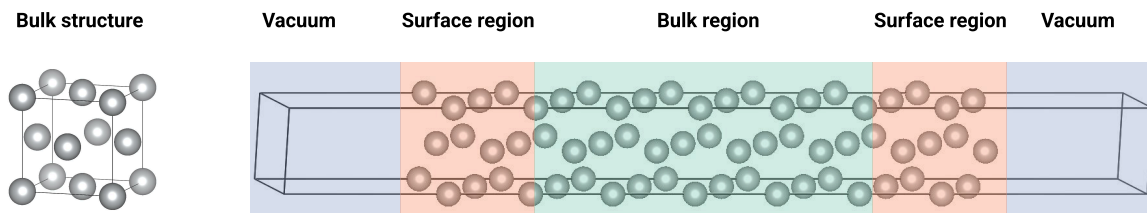

Figure 1: Visualization of the FCC bulk structure and a surface slab (with seven layers and two layers of vacuum).
Compute the surface energy of a solid (100) surface of FCC-Ag using the LJ potential. The surface energy is defined as the energy cost of creating a termination of the bulk crystal along a crystallographic plane. To compute it, you will need to build a supercell containing a slab (cut) of the bulk and some vacuum, see Figure 1 for an exemplary visualization. To create these slabs, we provide a Python script `create_slab.py` (the usage of the script is described below).
The number of vacuum layers is internally expressed in terms of the lattice constant, and the slab will be centered in the resulting supercell, see again Figure 1 for reference. The script uses the `pymatgen` (<https://pymatgen.org>) library, which is another very useful and commonly adopted library to work with structures and simplifies many analyses.